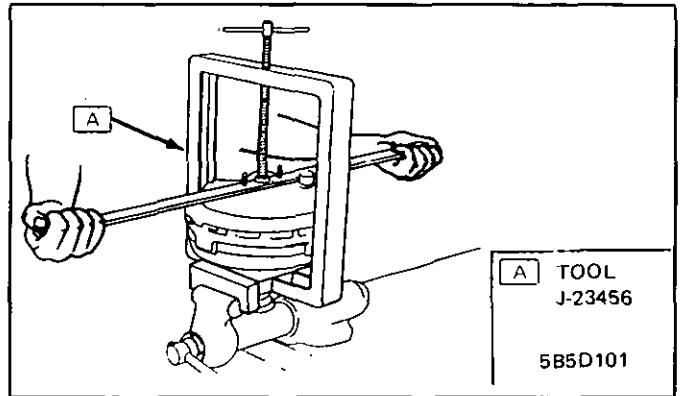

Figure 5 Unlocking and Locking Booster
2. Apply pressure with Tool J-23456 and turn counterclockwise to unlock housings as shown in Figure 5.
3. Primary piston bearing (8) from housing (9)
4. Return spring (11) and power piston group (38)
1. Return spring (11)
2. Power piston group (38)
3. Primary piston bearing (8) to housing (9)
5. Apply pressure with Tool J-23456 and turn clockwise to lock front and rear housings (9 and 10) as shown in Figure 5.